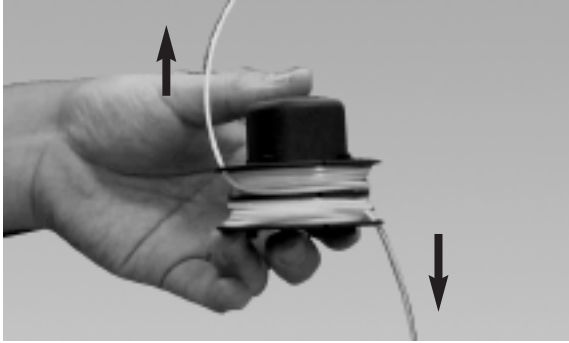
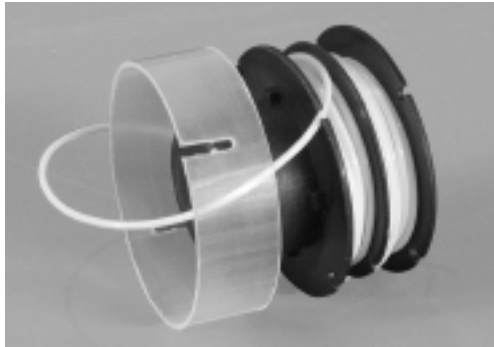
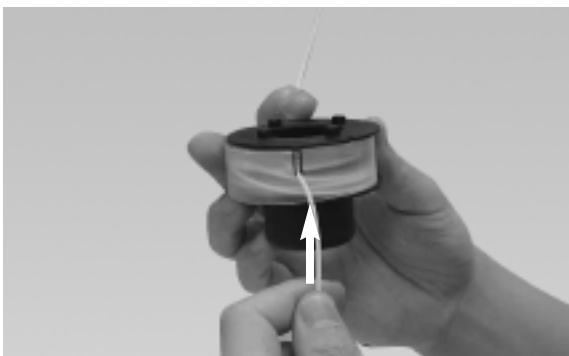
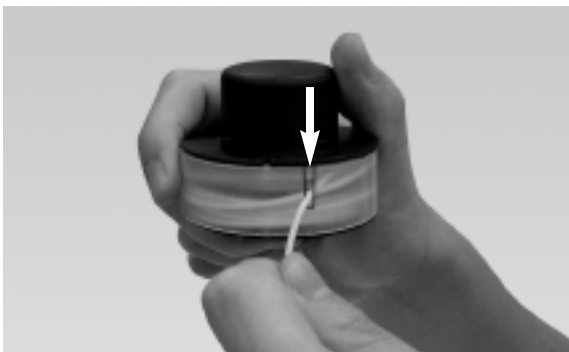

Fig. 16
Fig. 17
Fig. 18
Fig. 19
6. Lock the ends of the line in opposite slots on the spool (Fig. 16). Place the clear plastic line retainer back over the line and spool (Fig. 17). Pull the lower line up into the lower slot in the clear plastic line retainer (Fig. 18). Pull the upper line down into the upper slot (Fig. 19).